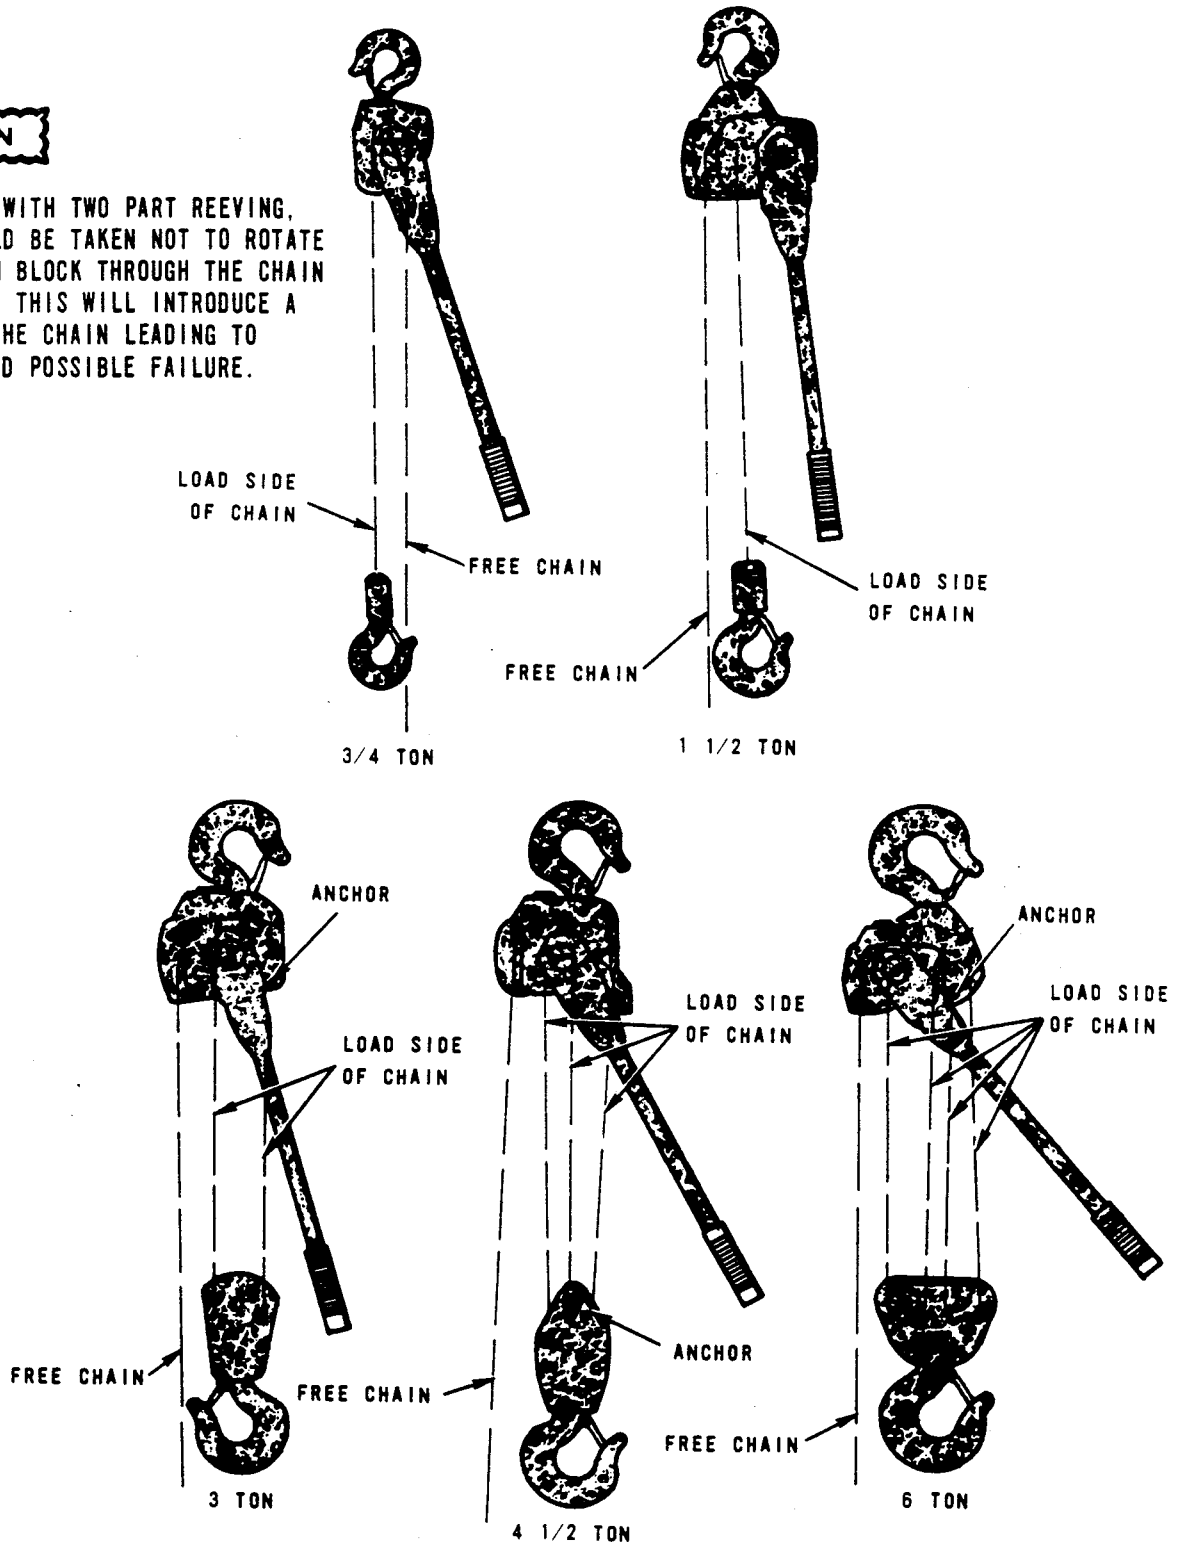

Figure 7. Hook alignment, showing load side and free side of chain when properly assembled.
- (b) **ROLLER CHAIN:** Remove the split retainer or two (2) cotter pins from chain stop link. Remove link side plate roller stop, side plate and pins from end of chain.
- (d) Hold down free wheeling lever to disengage load brake pawl. Pull chain out of hoist. When replacing link chain, See Figure 6 page 12, and Figure 7 page 13.
- (c) To reassemble, position hook assembly. Install cap, lockwasher and screw. Position and install chain assembly. If chain has been removed for any reason be sure that it is properly installed as shown in Figure 7 on page 13.
- (a) Place pul-lift on a clean work bench. Remove chain assembly as follows: Place selector lever in neutral position. Push down on free wheeling lever to disengage load brake pawl. Allow bottom block to be pulled away from upper unit approximately one (1) foot.
- (f) Install chain assembly. If chain has been removed for any reason, be sure that it is properly installed as shown in Figure 7, page 13.
DO NOT KINK OR TWIST CHAIN. WHEN REPLACING HOOK OR CHAIN BE CERTAIN BOTTOM BLOCK IS ANCHORED TO LOAD SIDE OF CHAIN. See Figure 7 on page 13.